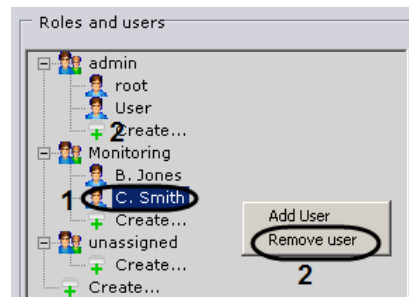

Fig. 6.10—7 Deleting a user
3. Select **Delete user** (see Fig. 6.10—7, 2).